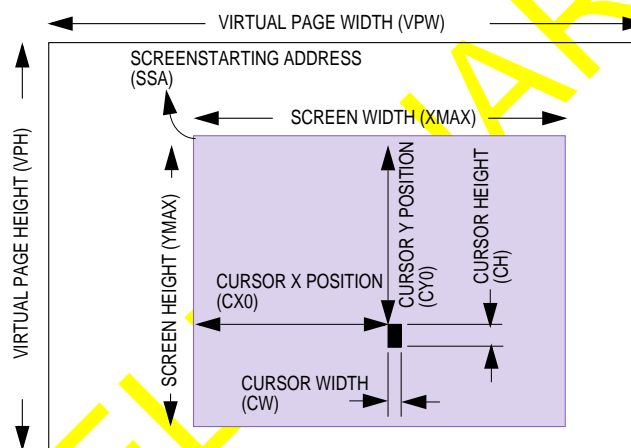

Figure 8-5. LCD Screen Format
**8.2.4.1 LCD SCREEN FORMAT.** The LCD panel's screen width and height can be programmed in the software. Figure 8-5 illustrates the relationship between part of a large graphics file displayed on screen versus the actual page in pixel counts.
The LCD screen width (LXMAX) and screen height (LYMAX) registers specify the size of the LCD panel. The LCD controller starts scanning the display memory at the location pointed to by the LCD screen starting address (LSSA) register, which means the LCD panel will display the shaded area in Figure 8-5.